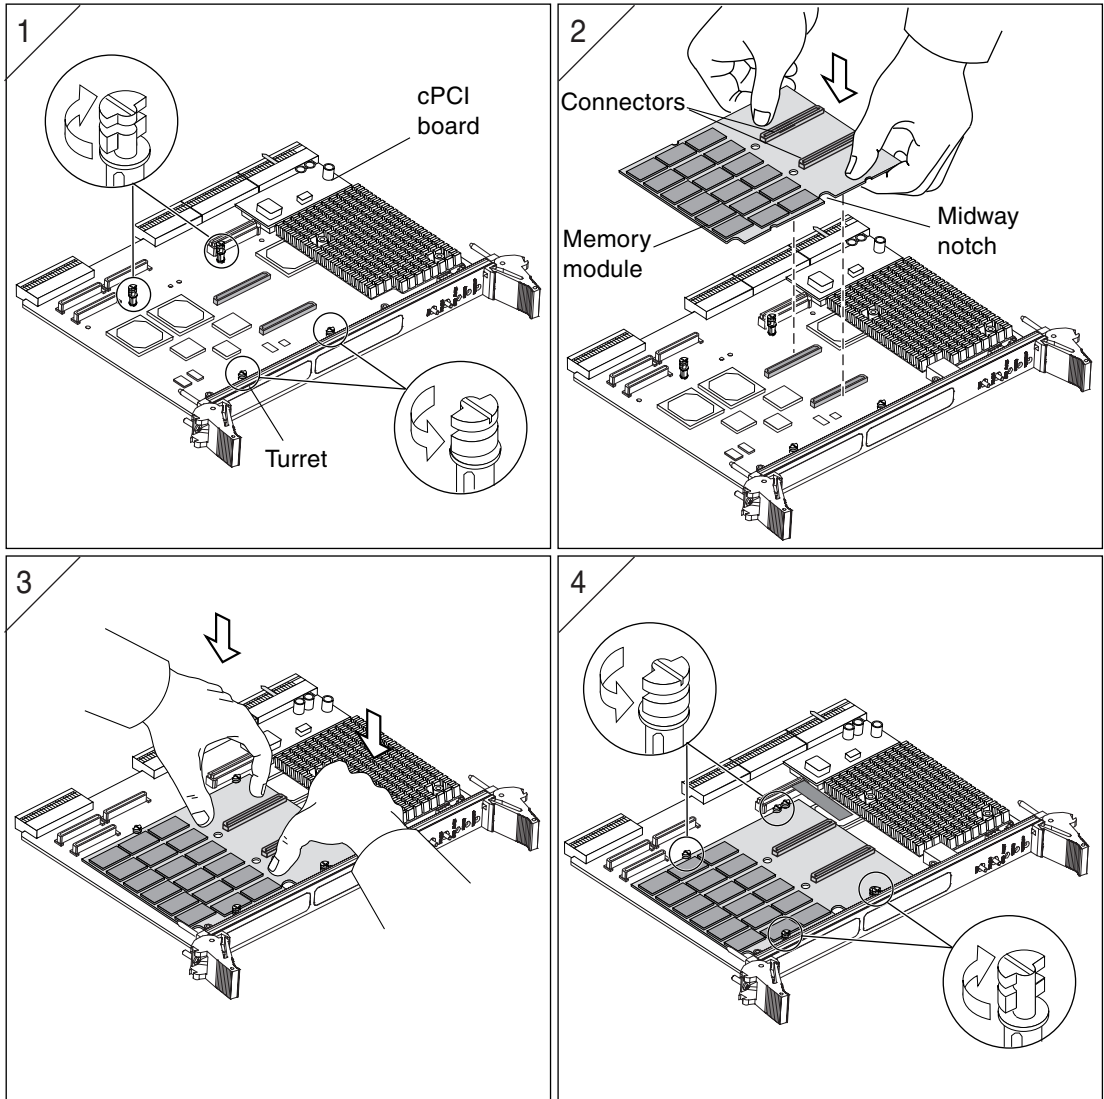

FIGURE 7 Double-wide Memory Module Installation Procedure on a Typical Netra CP2000/CP2100 Board
Refer to FIGURE 7 and the following instructions to install the double-wide memory module.
1. Rotate the turrets to the position shown in FIGURE 7 Segment 1.
2. Grasp the memory module with two hands (see FIGURE 7 Segment 2).
3. Align the module connectors with the memory sockets on the Netra CP2000/CP2100 board. Make sure the module is right side up so that the connectors mate, and orient the midway notch on the memory module towards the front panel of the cPCI board (see FIGURE 7 Segment 2).
4. Seat the module firmly into position so that it fits onto the board connectors, while pressing down on the module with your fingers (see FIGURE 7 Segment 3).
5. Rotate the turrets back to the position shown in FIGURE 7 Segment 4.